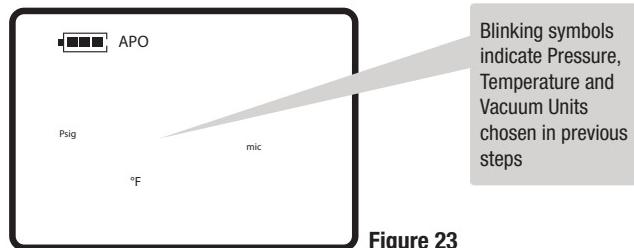

Figure 23
- 1) The next menu item after selecting Vacuum Units is the **Units Summary Screen** (FIG. 23). Blinking symbols represents units chosen in previous steps.